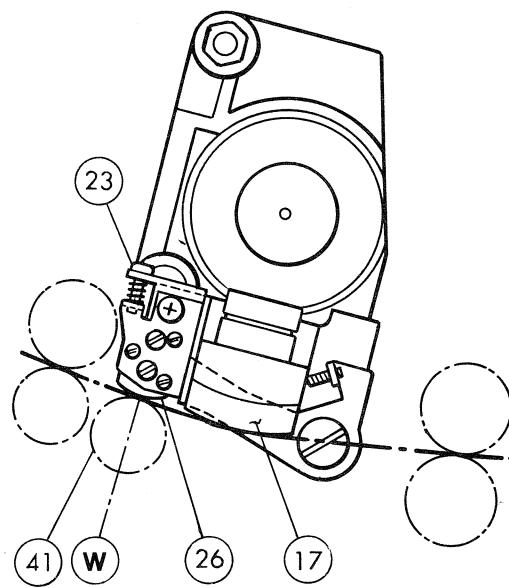
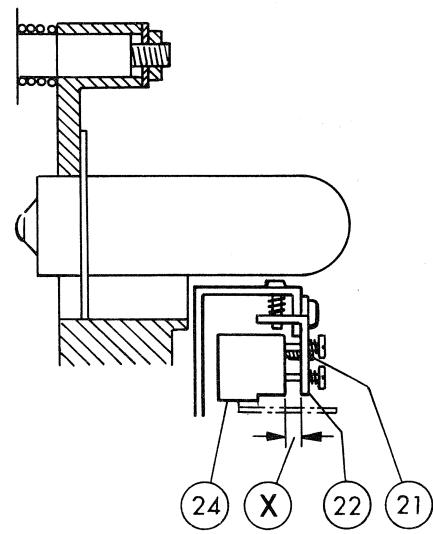

Fig.37
Fig.38
- Replay the SMPTE P16-BT, then loosen ⑧ and ⑩ in Fig. 37, and move ⑨ back and forth to find a position where both the low-sound zone and high-sound zone sounds are inaudible, before fixing the ⑨ at that position.
- 1) Take out ⑲ and remove the 2 pieces of lead wires extending out of ⑯.
- 2) Refer to Fig. 37 for further disassembly.
- 1) Refer to Fig. 37, and carry out reassembly in the reverse order of disassembly.
- 2) Make sure that ⑪ has no scratch, irregularity, etc., and rotates smoothly.
- 3) Turn ⑩ slightly, and fix where the S/N ratio is minimum.
- 4) Adjust the spring tension of ⑫ to 20 g (by using 30 g dial tension gauge, CO62.)
- 2) Adjust the extension allowance of ⑬ in Fig. 37, so that the ⑬ extends approximately 2.5 mm towards ⑩ from the imaginary film traveling line obtained by connecting ⑯ to guide roller with a straight line.
- 3) Adjust ⑮, so that its center lies on the center line of ⑪.
- 4) Make adjustment, so that the gap between ⑪ and ⑭ is approximately 2.5 mm. (See Fig. 38.)
- 5) After adjustments in items 2) ~ 4), use the standard films, SMPTE P16-SL and DIN 16/EBU, to find a position where the audio output level is  $800 \text{ mV} \pm 6 \text{ dB}$ , and then fix.